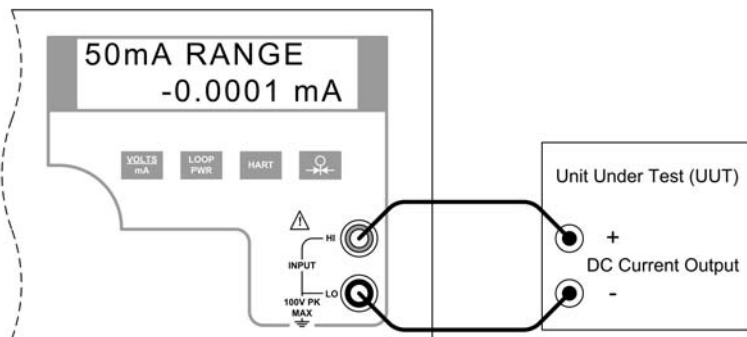

Figure 18 - Isolated DC Current Input Connection
- c) Connect the unit under test to the isolated voltage/current input terminals of the CL3001 as shown in figure 18.